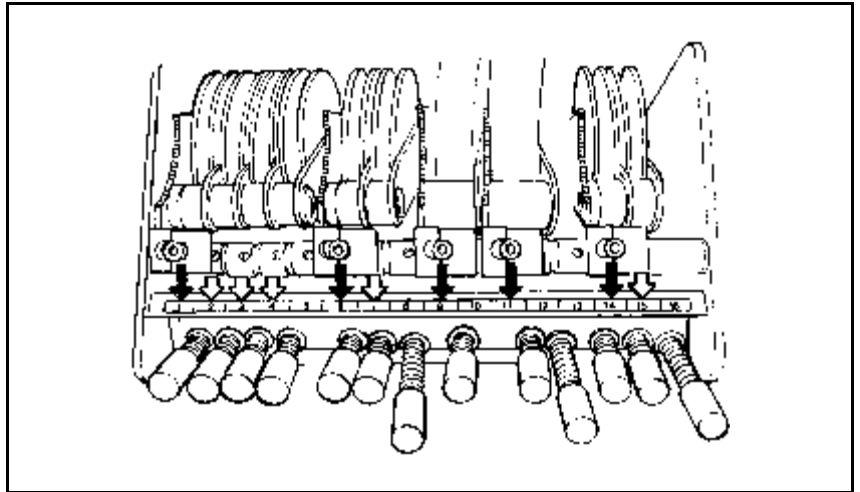

Figure 4-36. First feeder number at the screw
4. The feeder number is read at the center of the upper screw (Figure 4-36). This applies to the first feeder number of a multi-feeder mechanism.